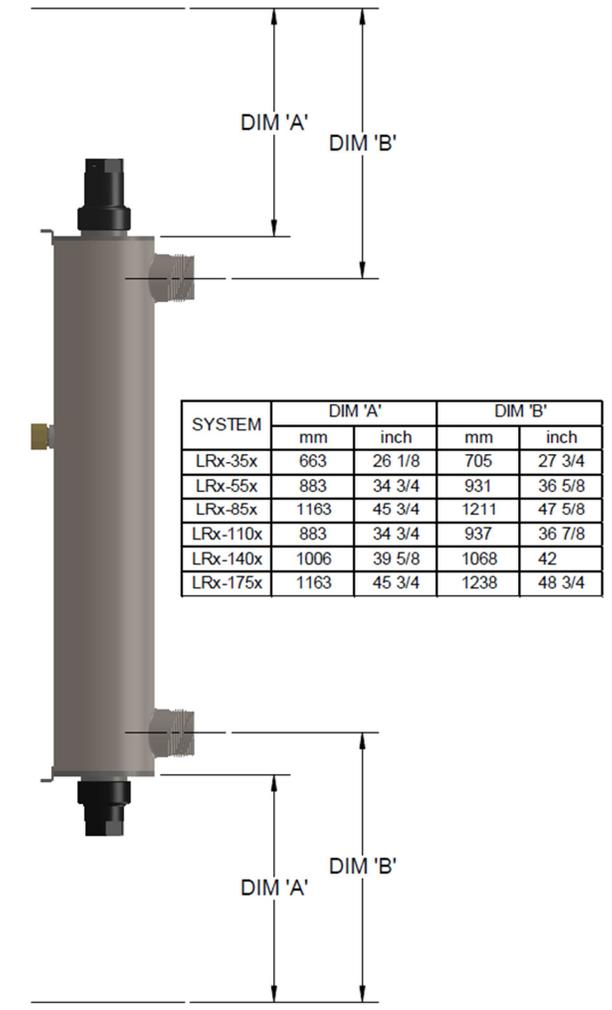

Figure 4. Lamp Removal Spacing
Step 4: To facilitate lamp removal, ensure there is enough space at one end to safely remove the UV lamp and/or quartz sleeve (a space equal to the length of the unit will suffice) (see Figure 4).